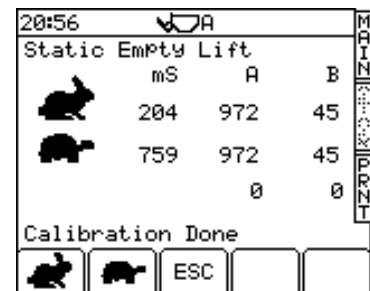

Figure 8b
-  Lift an **EMPTY** bucket at slow speed to the static weigh point (kickout), allow the system to weigh and then press ENTER. The instrument then displays the message "**Calibration Done**" (fig. 8b).